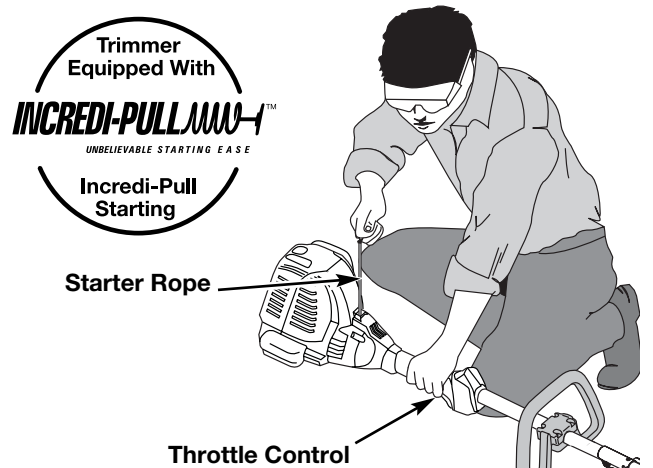

Fig. 9
5. Crouch in the starting position (Fig. 9). Squeeze the throttle control lever. Pull the starter rope out with a slow and steady motion 5 times.